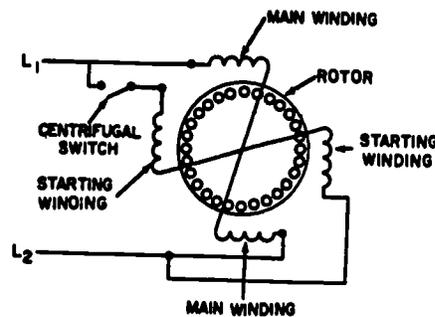

Fig 4-37. Schematic of a single-phase, split-phase motor.
**SPLIT-PHASE MOTORS** contain two windings, the main winding and the starting winding. The main winding is wound on the stator and the starting winding is wound on top of the main winding in such a manner that the centers of the poles of the two windings are displaced by  $90^\circ$ . The windings are connected in parallel (see fig 4-37) to the same supply voltage, therefore, the same voltage is applied to both windings. The starting winding is usually wound with fewer turns of small size wire and has iron on only two sides. It, therefore, has less inductance than the main winding, which has a low resistance and is surrounded by iron on all sides except one. When the same voltage is applied to both windings, the current in the main winding lags the voltage more than the current in the starting winding. This produces a rotating field which starts the motor. As the motor approaches full speed, a centrifugal mechanism mounted on the rotor opens a centrifugal switch (see fig 4-37) and disconnects the starting winding from the line. If the centrifugal mechanism should fail to open the switch, the motor will run hot because of the high resistance of the starting winding and will burn out the starting winding if allowed to run any length of time. This is the most frequent cause for failure of split-phase motors. The split-phase motors are usually furnished in ratings from 1/60 to 1/3 horsepower and are desirable for use in machine tools, office equipment, pumps, fans, blowers, oil burners, kitchen appliances, and laundry equipment. Split-phase motors may or may not have a built-in thermal overload relay for the protection of the motor during an overload. The relay is usually of the automatic type, opening when the current in the windings is above normal and automatically resetting when the current is restored to normal. To reverse the split-phase motor, reverse the leads of either the starting winding or the running winding.